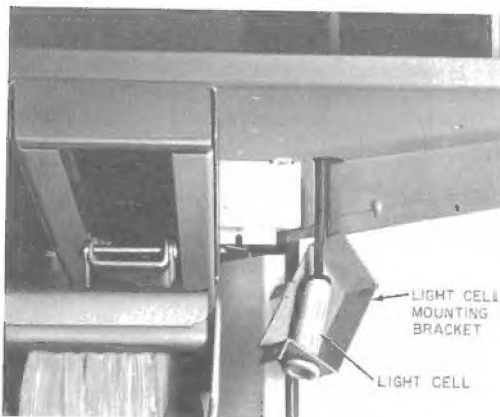

Fig. 17—Installation of Light Cell in Mounting Bracket
- (h) Install the light cell in the light cell mounting bracket as shown in Fig. 17.